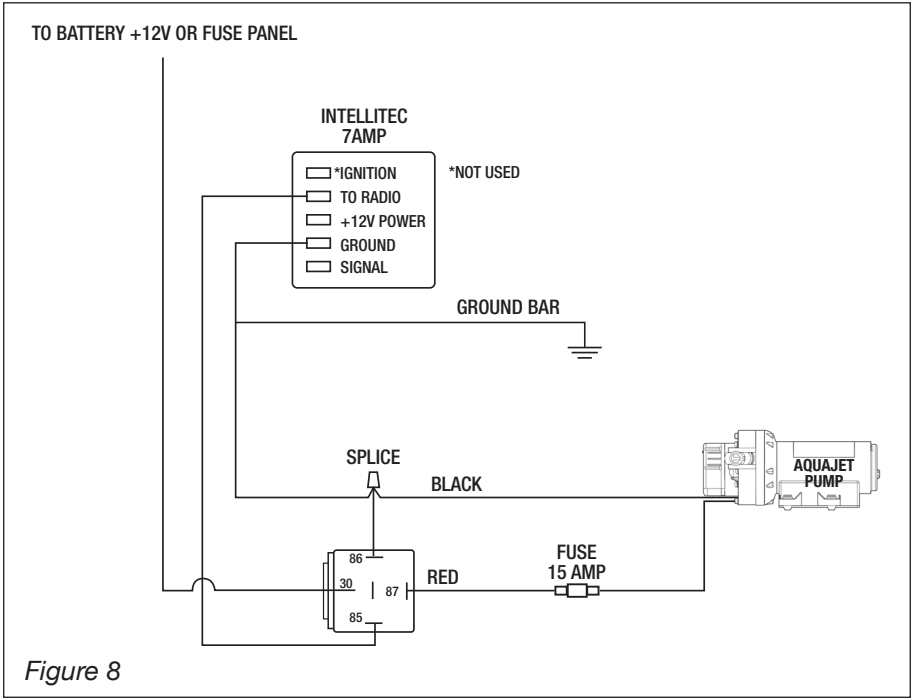

Figure 8
- b. Procure a 40 Amp rated relay (through either a local automotive store or directly through the Remco catalog, product number 20-267-6040-REM) to augment your existing controller. Please refer to Figures 3 & 4, page 13 and Figure 8, page 15.
5. At the end of your survey you should have determined how to wire the Aquajet pump. Your alternatives are illustrated in Figure 1, page 12 (“no change,” also applicable for single switch systems), Figure 2, page 12, Figures 3 or 4, page 13 or Figure 8, page 15. You should also have determined how to plumb the pump. Your options are Figures 5, 6 or 7, page 14. Always make sure you have all hardware needed before you start the actual installation.
1. Determine whether or not your existing wiring can supply 6.5 Amps to the Aquajet ES without generating an excessive voltage drop or overloading any control component. You should check specifically for three (3) things:
- a. Determine whether your RV is currently using an Intellitec pump controller. The Aquajet ES Series is compatible with most common rated versions (7 Amp, 10 Amp, 15 Amp). However, if you have either a 3 Amp or non-rated controller, you should procure a 40 Amp rated relay to augment your existing controller. These 40 Amp relays are available through local automotive stores or through Remco directly (P/N 20-267-6040-REM). If necessary, refer to Figure 8, page 15 for additional information.